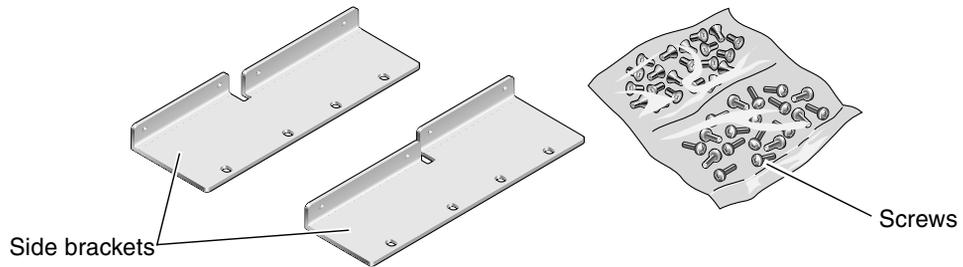

FIGURE 3-21 Contents of the Hardmount 23-Inch 2-Post Kit
1. Get the side brackets from the rack kit (FIGURE 3-21).